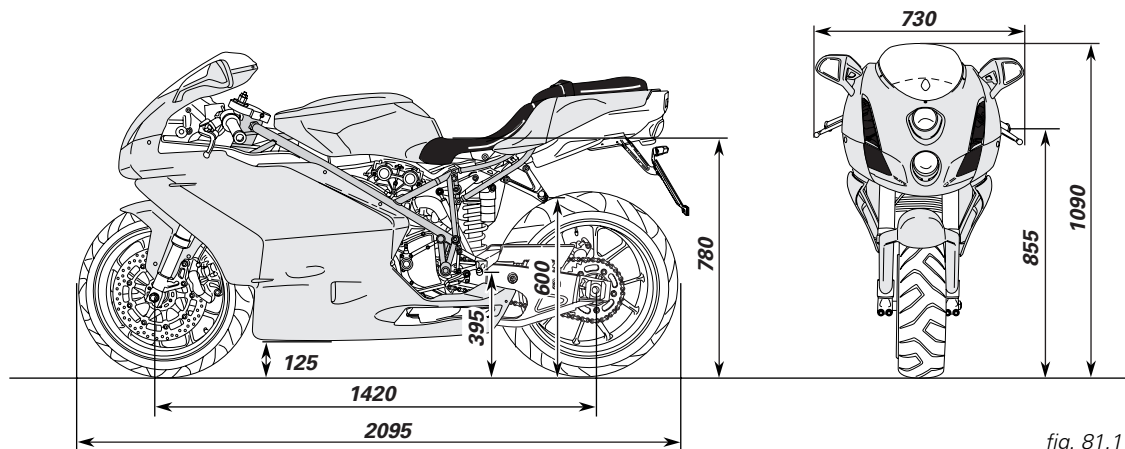

fig. 81.1
**Dimensions (749/749S)** (mm) (fig. 81.1)